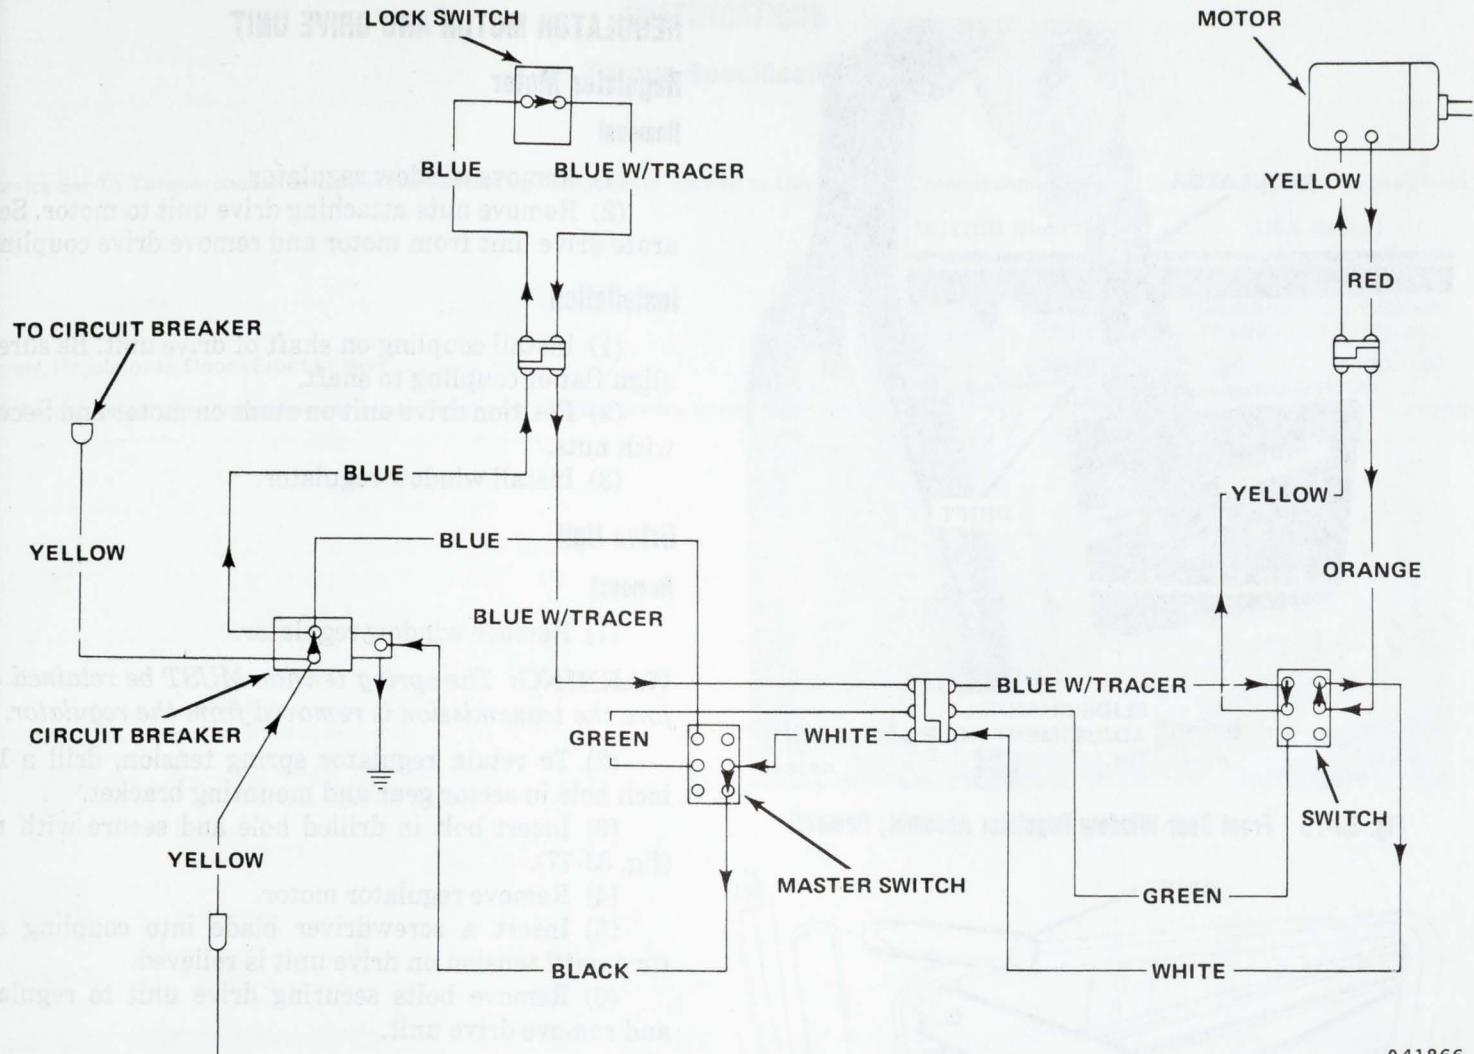

Fig. 3J-73 Window Down Circuit
- (1) Raise window to full UP position.
- (2) Disconnect battery negative cable.
- (3) Remove control switch escutcheon.
- (4) Remove door trim panel and water dam paper.
- (5) Insert a drift into hole in inner panel or use masking tape to hold glass assembly in up position (fig. 3J-76).